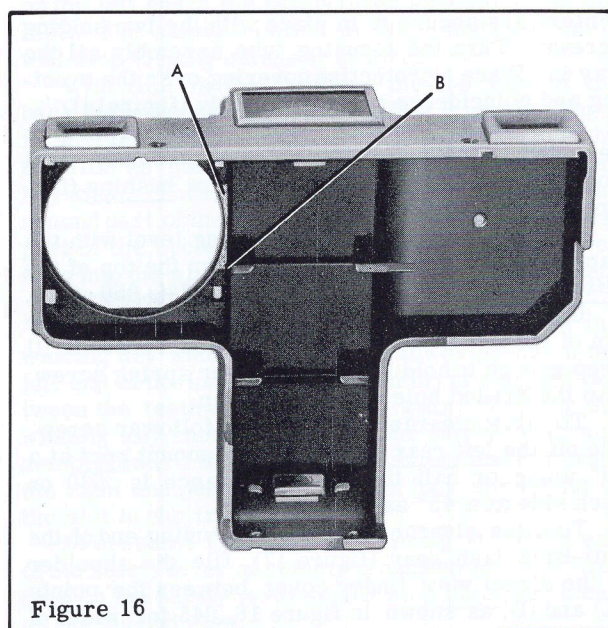
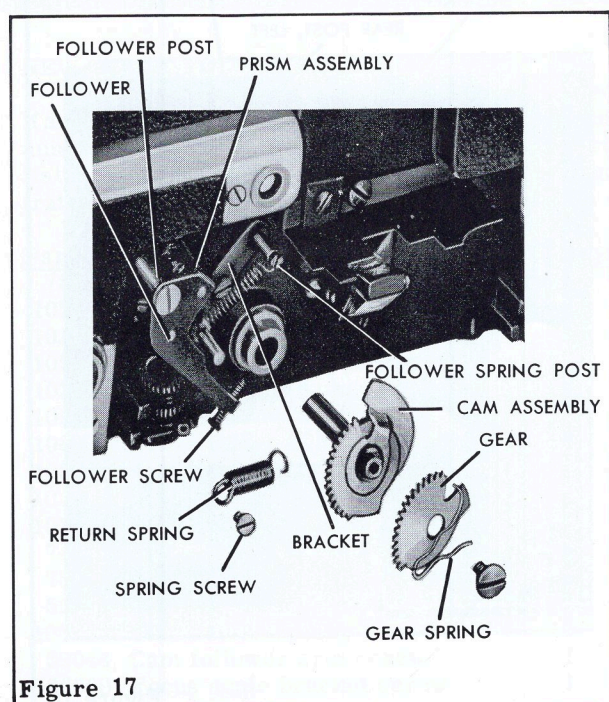

Figure 16
Figure 17
To allow clearance for the protruding end of the anti-back lash gear (figure 17), file the shoulder of the direct view finder cover between the points (A) and (B) as shown in figure 16, .045 for width of .437 (.218 each side of center). Tolerances are +.050 or -.000.
Attach one end of the cam return spring (figure 17) to the left front post of the objective lens mount assembly with the cam spring screw and the other end to the lip on the cam assembly.
Place the anti-back lash gear (figure 17) over the gear on the cam assembly. Be sure the anti-back lash gear fits tight against the cam assembly gear. If it does not fit tight, ream out the hole in the anti-back lash gear. Check for burrs on the gear by turning it on the cam assembly. Set the anti-back lash gear spring over the anti-back lash gear with the center loop of the spring over the end of the cam assembly shaft. Fit the short end of the spring against the protruding end of the anti-back lash gear and the long end of the spring against the gear and the cam assembly. Secure the spring in position with the spring holding screw. Turn the anti-back lash gear against spring tension (counterclockwise) until three teeth of the anti-back lash gear extend beyond the first tooth on the cam assembly gear. Set the pinion on the post and mesh it with the teeth on the cam and anti-back lash gear.